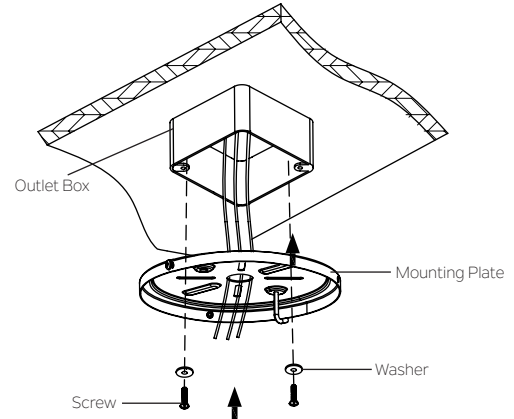

Fig. 4
**Step 1.** Before attaching fan to outlet box (not included), ensure the outlet box is securely fastened to at least two points to a structural ceiling member (a loose box will cause the fan to wobble). Pass the 120 volt supply wires from the outlet box through the center of the mounting plate. Install mounting plate to outlet box in ceiling using the screws and washers included with the outlet box. (Fig. 4)